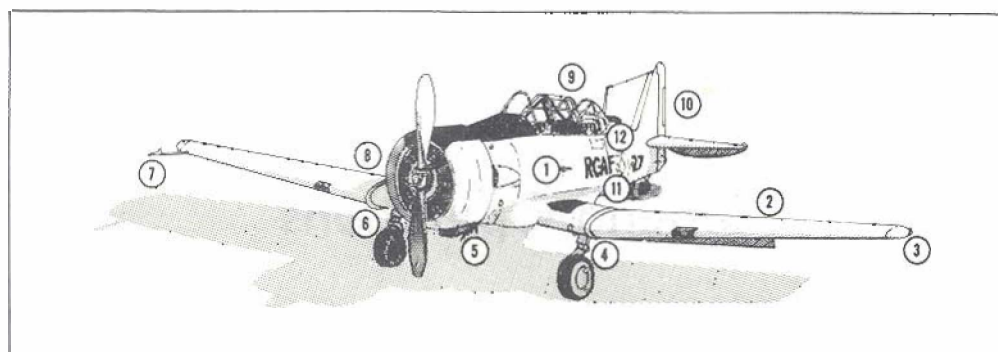

Figure 1: The External Pre-flight Check
(1) The External Pre-flight Check must be completed before each flight. While standing on the left wing-walk in position ① as shown in Figure 1 over-leaf, check the following items in the cockpit: